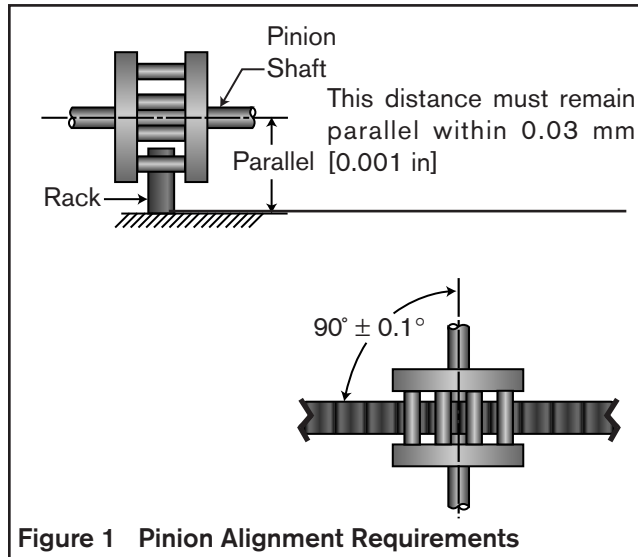
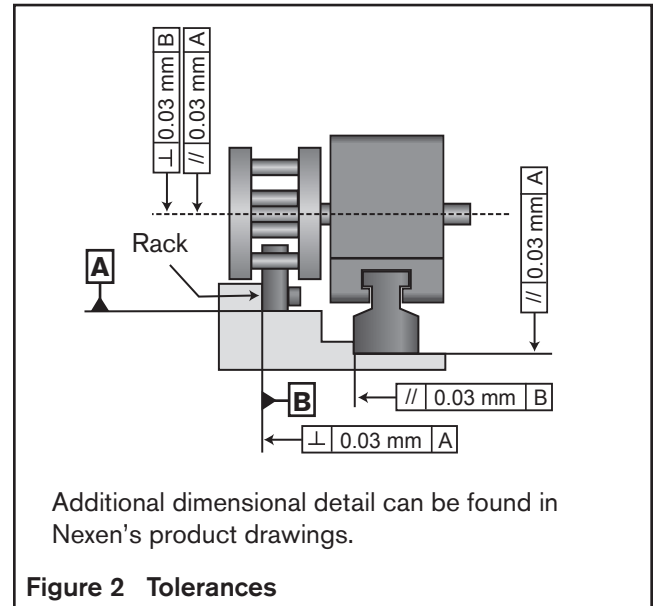

Figure 1 Pinion Alignment Requirements
Figure 2 Tolerances
- Unlike traditional rack and pinion drives, the RPS system has zero mechanical clearance and requires a system preload for proper operation. This preload must remain relatively consistent over the entire run to obtain optimal system performance and life. To achieve this it is crucial that the guiding system be as parallel as possible to the RPS system and not converge or diverge at any point. If the system converges, the pinion preload will become excessive and increase noise, reduce pinion roller bearing life, and potentially bind the system. If the system diverges, pinion preload will be lost causing backlash, a loss of positional accuracy, increase in noise, and reduction in system life. The main consideration is that the guiding system and the RPS system are rising or falling at the same place in the run so the pinion preload remains within specifications. The best way to minimize the variance between the guiding system and the Roller Pinion system is to machine their mounting locations in a single machining operation. See Figures 1 and 2 for more details.
- The rack and guiding system installation parallelism tolerances shown in Figure 2 are greater than the system preload. The RPS system has been designed to provide its rated performance under these conditions.
In order to minimize backlash, obtain the highest positional accuracy, and minimize wear on the rack, the RPS system must be installed on a rigid, straight, flat mounting surface with the tolerances shown in Figure 2.
- Mount a linear guide rail on a surface parallel to the RPS rack mounting surface with the same flatness as the rack mounting surface as shown in Figure 2.
- The pinion shaft must be parallel (0.03 mm [0.001 in]) to the rack mounting surface opposite the rack teeth and the angle between the pinion shaft and the face of the rack must be $90^\circ \pm 0.1^\circ$ maximum as shown in Figure 1).
The mounting surface for both the rack and the guiding system must be parallel within the specifications shown in Figure 2. This parallelism requirement is best achieved by machining the mounting locations for both the guiding system and rack in the same machining operation. (Refer to PROPER SYSTEM ALIGNMENT and Figures 1 and 2 for Possible Mounting Configurations.)
- Refer to **GENERAL DESIGN GUIDELINES** and **Figures 1 and 2** for Roller Pinion mounting requirements.